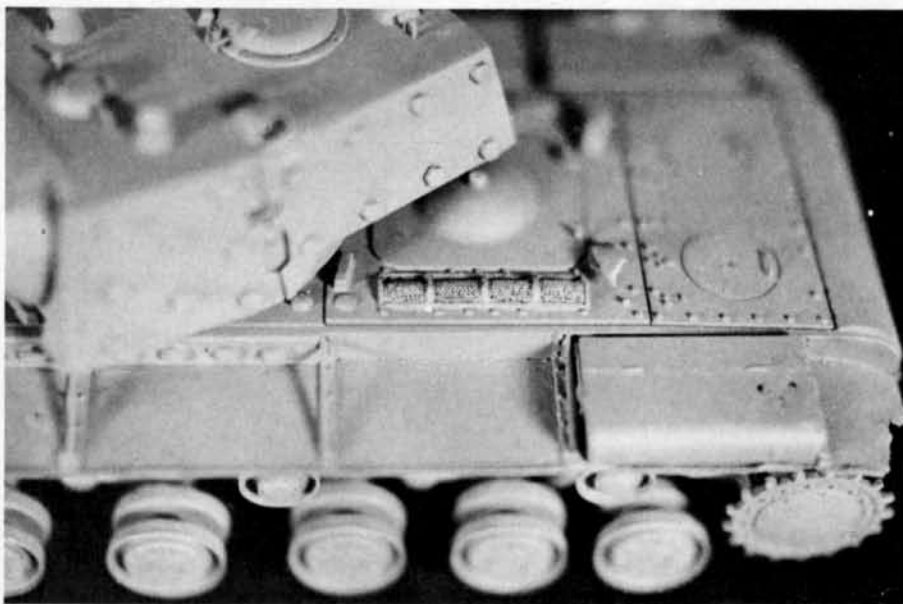

Fig. 6. Dan carved out the kit intake screens and replaced them with fine brass mesh.
**More small improvements.** I drilled out the engine air intake screens and replaced them with No. 60 brass mesh screen and frames made of .010" styrene strips, Fig. 6. Next, I drilled out the exhaust stacks with a motor tool. The engine deck latch cable was removed and replaced with fine scale chain link, attached to the engine deck with wire eyebolts.